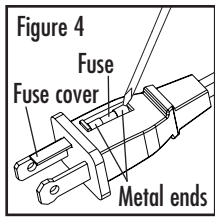

Figure 4
3. Remove fuse carefully by using a small screwdriver to pry the fuse out of the compartment by the metal ends of the fuse. (see Figure 4)